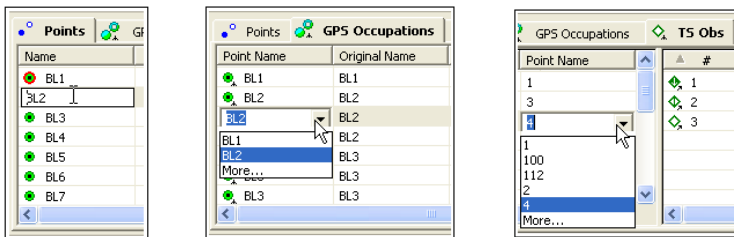

Figure 5-13. Select Point Name to Edit
1. Click a highlighted point name cell, or press **F2** (Figure 5-13).